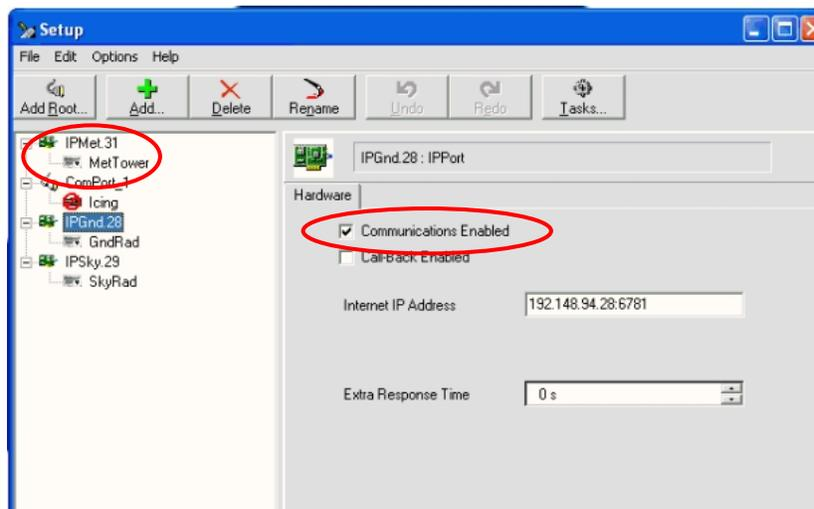

Figure 12
2. Click on the **Setup** button to access the **Setup** menu. And then, click on the **IPMet.31** root located in the left-hand window (see Figure 12).
3. Under the **Hardware** tab, check the **Communications Enabled** box (see Figure 12).